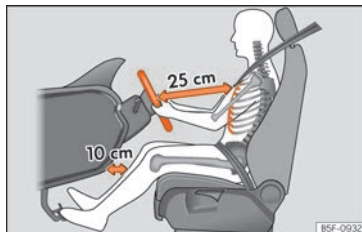

Fig. 3 The correct distance between the driver and the steering wheel must be at least 25 cm [10 inches].
- Move the steering wheel so it is at least 25 cm (10 inches) away from the sternum »» Fig. 3 and you can hold it with both hands on both sides, on the outer part, with your arms slightly bent.
and the dashboard of at least 10 cm (4 inches) »» Fig. 3.